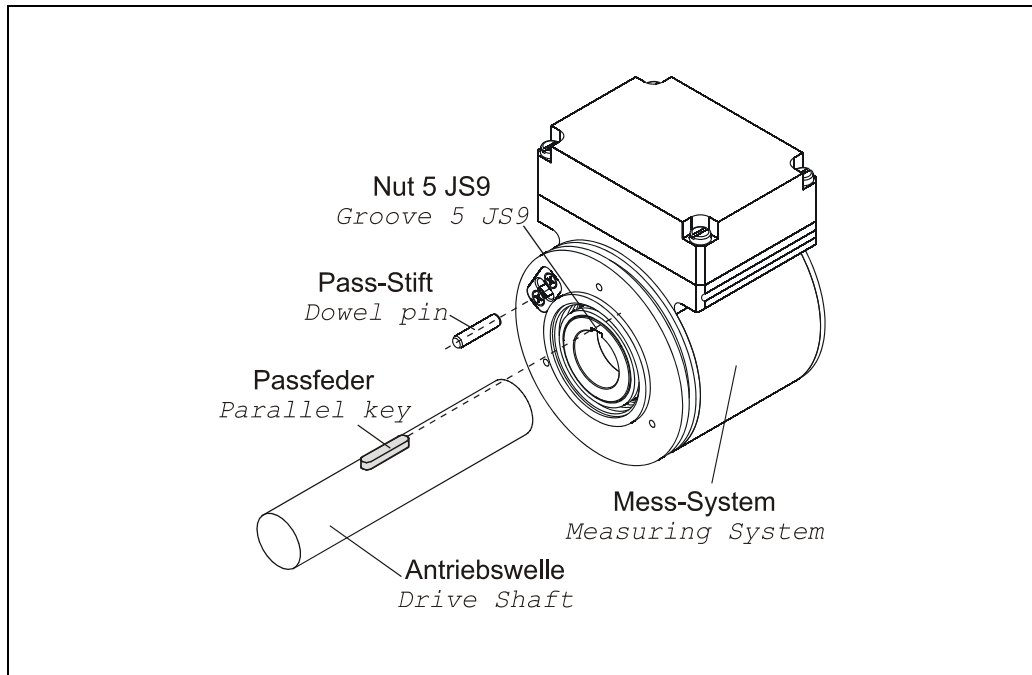

Fig. 4: Positive locking
- Positive locking using a parallel key/groove combination should prevent radial slippage of the measuring system on the drive shaft; the measuring system must be fixed to the drive side using a dowel pin, see Fig. 4.